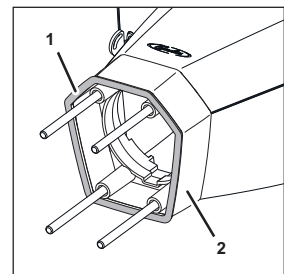

Fig. 18
2. Remove the sealing lip (Fig. 18/1) from the stand booster (Fig. 18/2).